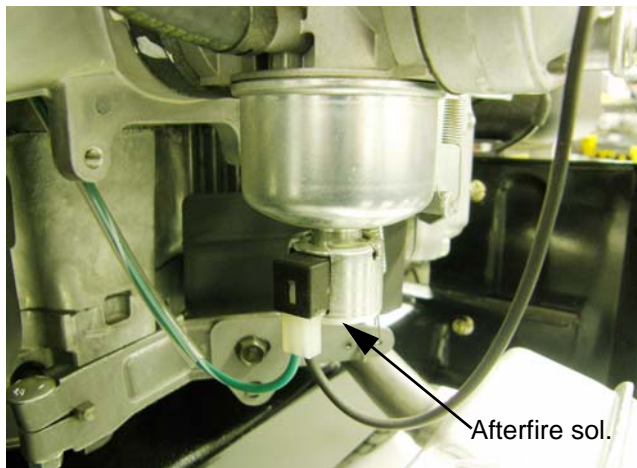

Figure 7.14
2. There is an **afterfire solenoid** on the carburetor. When it is energized, fuel flows normally through the carburetor. When it is not energized, it closes off the fuel flow through the main jet of the carburetor. The purpose of the solenoid is to prevent unburned fuel from being pumped through the engine after the ignition is turned off. This unburned fuel accumulates in the muffler and may ignite with an alarming noise. See Figure 7.14.